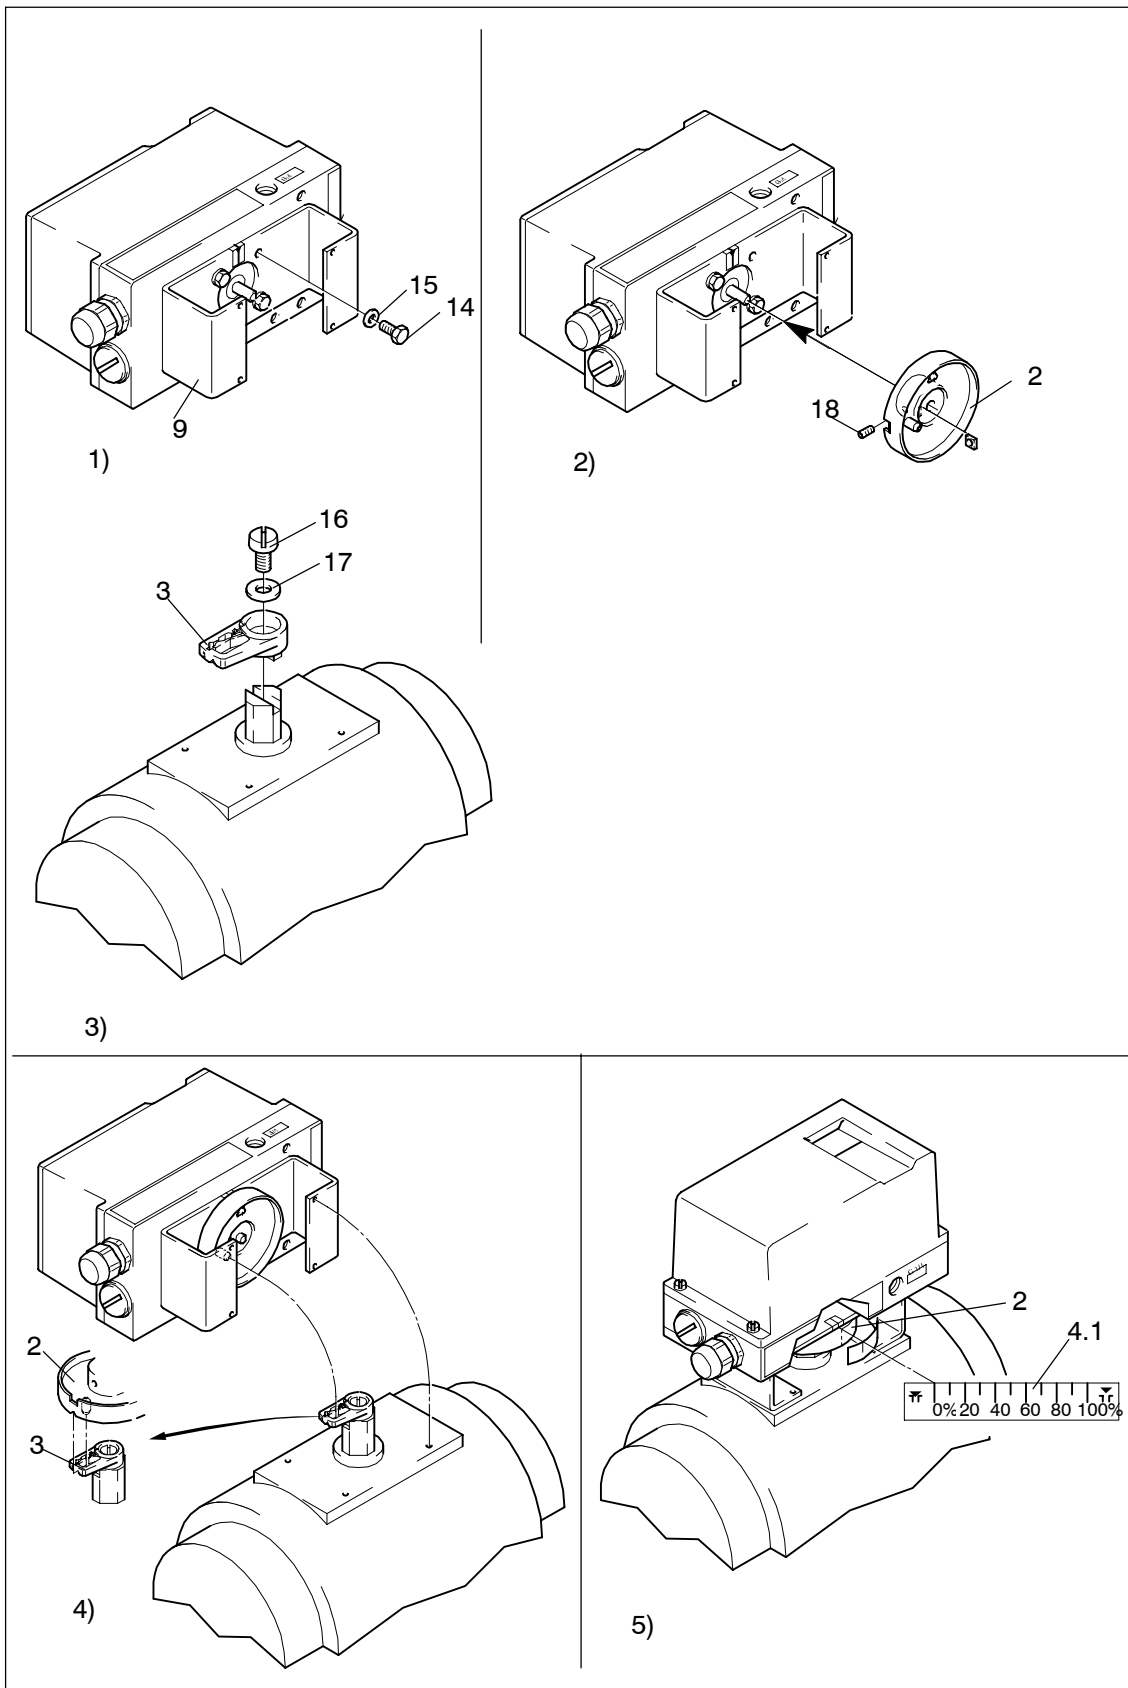

Figure 3-8 Assembly procedure (rotary actuator)
The *scope of delivery of the mounting kit "Rotary actuator"* contains (ser. no. see figures 3-8 and 3-9):
3.3.6 Assembly procedure (see figure 3-8 and figure 3-9)